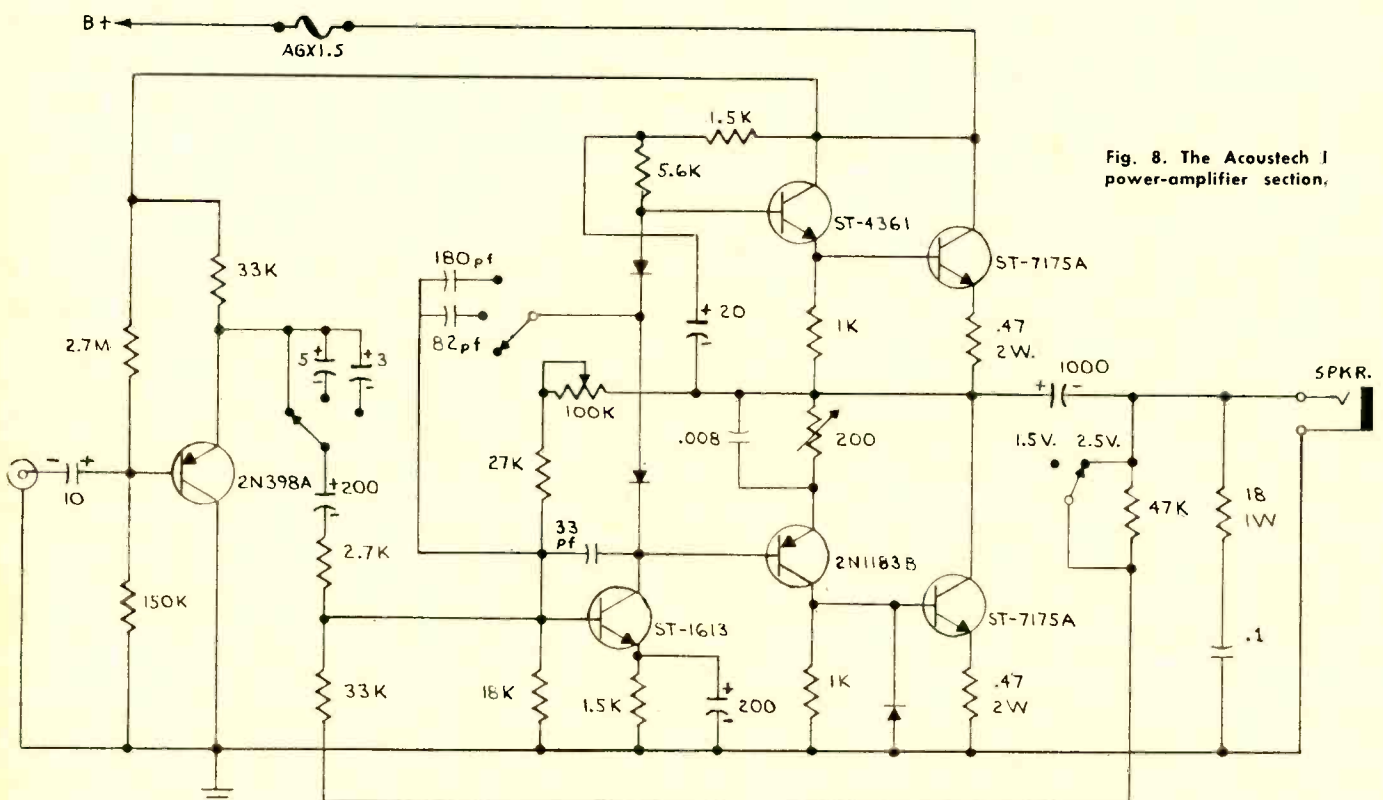

Fig. 8. The Acoustech I power-amplifier section.
*Acoustech's* amplifier designs (Fig. 8) are conservative and, superficially, similar to those used by *Scott* and *Harman-Kardon* in its "Citation." What is distinguished is the quality of components and layout. The same may be said of the firm's two preamplifiers. The company also offers an integrated amplifier, the Model V. This is a combination of the separate units with simplification and less versatility.